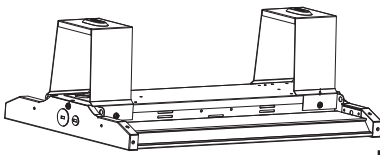

Fig. C-1
1. Align the surface mount brackets with the fixture back plate as show in the **Figure C-1**
2. Screw the round head screws into the screw holes to fix the surface mount brackets on the fixture body. (**Figure C-1**)